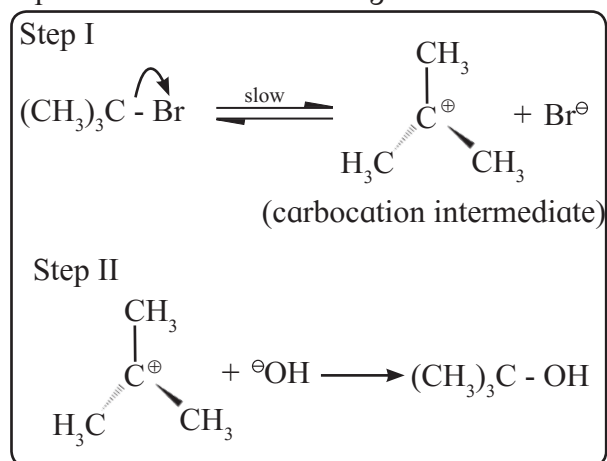

Fig. 10.5 : S_N1 mechanism
It can be seen in this reaction that concentration of only substrate appears in the rate equation; concentration of the nucleophile does not influence the reaction rate. In other words, tert-butyl bromide reacts with hydroxide by a two step mechanism. In the slow step C-X bond in the substrate undergoes heterolysis and in the subsequent fast step the nucleophile uses its electron pair to form a new bond with the carbon undergoing change. This S_N1 mechanism is represented as shown in Fig. 10.5.
- iv. When S_N1 reaction is carried out at chiral carbon in an optically active substrate, the product formed is nearly racemic. This indicates that S_N1 reaction proceeds **mainly with racemization**. This means both the enantiomers of product are formed in almost equal amount. Racemization in S_N1 reaction is the result of formation of planar carbocation intermediate (Fig. 10.5). Nucleophile can attack planar carbocation from either side which results in formation of both the enantiomers of the product.
S_N1 : A planar carbocation intermediate is formed in S_N1 reaction. It has no steric crowding. Bulky alkyl groups can be easily accommodated in planar carbocation See (Fig. 10.5). As a result S_N1 mechanism is most favoured in tertiary halides and least favoured in primary halides. (Formation of planar carbocation intermediate results in a